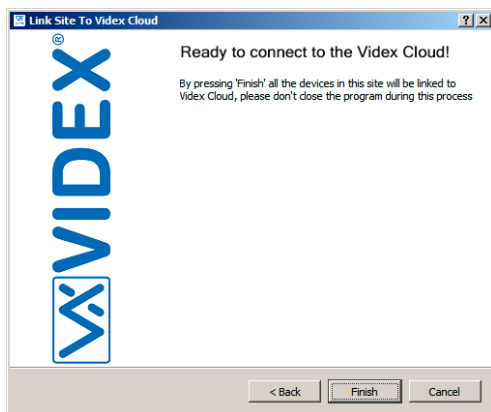

Fig. 36 Ready to connect to Vindex Cloud
- The system is ready to connect to Videx Cloud (Fig. 36) click the "finish" button to proceed.